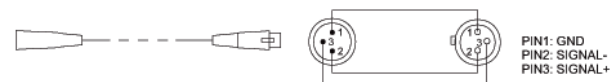

Fig.6
5.Signal wire and connector link(See Fig.6):